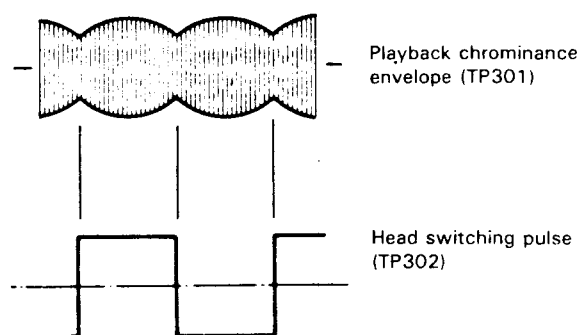

Figure 1-21.
- e. Observe the playback chrominance envelope waveform and check flatness of the playback chrominance envelope, turning the tracking control clockwise and counterclockwise. If playback chrominance output changes almost flat when the tracking control is turned clockwise and counterclockwise, it is good. If the flatness is poor, adjust the guide roller so that playback chrominance output becomes nearly flat. Adjust the X-position adjusting nut so that the playback chrominance envelope becomes almost maximum in the tracking center. In the case of rough adjustment, pay particular attention to the outlet side (See Fig. 1-21).